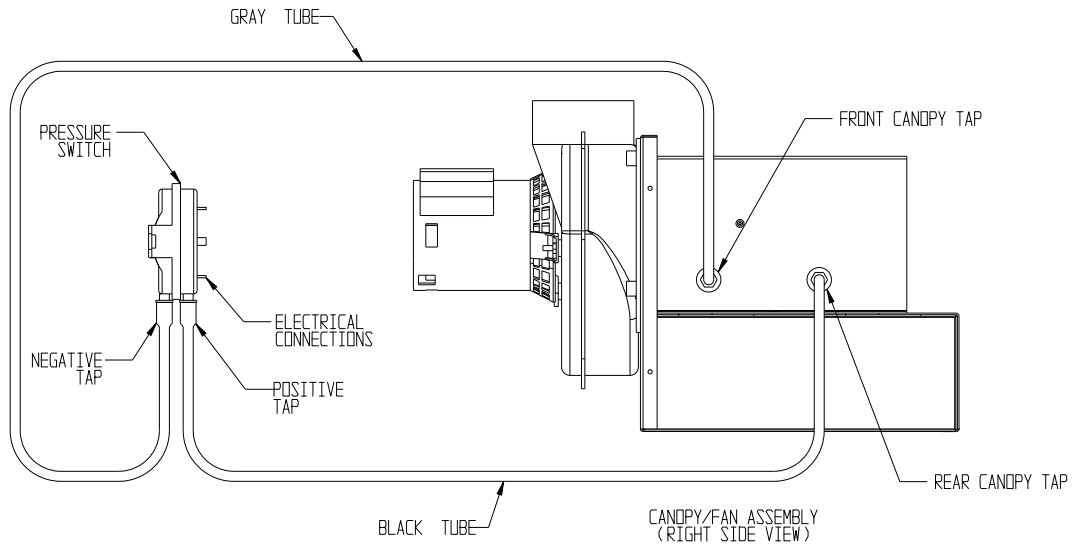

Figure 14-3a: Pressure Switch Connections
- A. Pressure Switch – This boiler is equipped with a differential pressure switch which makes when there is adequate flue gas flow through the boiler. This switch measures the pressure drop across an orifice plate inside the flue collector; the higher the flue gas flow through this plate, the higher the pressure drop. The N.O. contacts on the pressure switch make, allowing the boiler to fire, when the pressure drop across the flue collector orifice plate switch exceeds the “make setting” shown in Table 14-1. Once the switch is made, the boiler will fire as long as the pressure at the switch is above the “break setting” shown in Table 14-2. The pressure at both pressure switch tappings is actually below atmospheric (“negative”) with the pressure at the front flue collector tap being the more negative of the two pressures. Figure 14-3a shows the pressure switch connections.